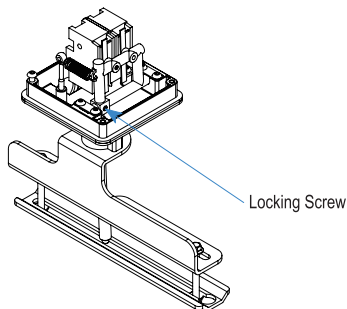

Fig. 3
- Loosen the locking screw (see Fig. 3), adjust the length of the trip rod, make sure it sits at the right position where the trip rod should be exceeding the valve stem but not touching the mounting plate. Tighten the locking screw and fix the trip rod.